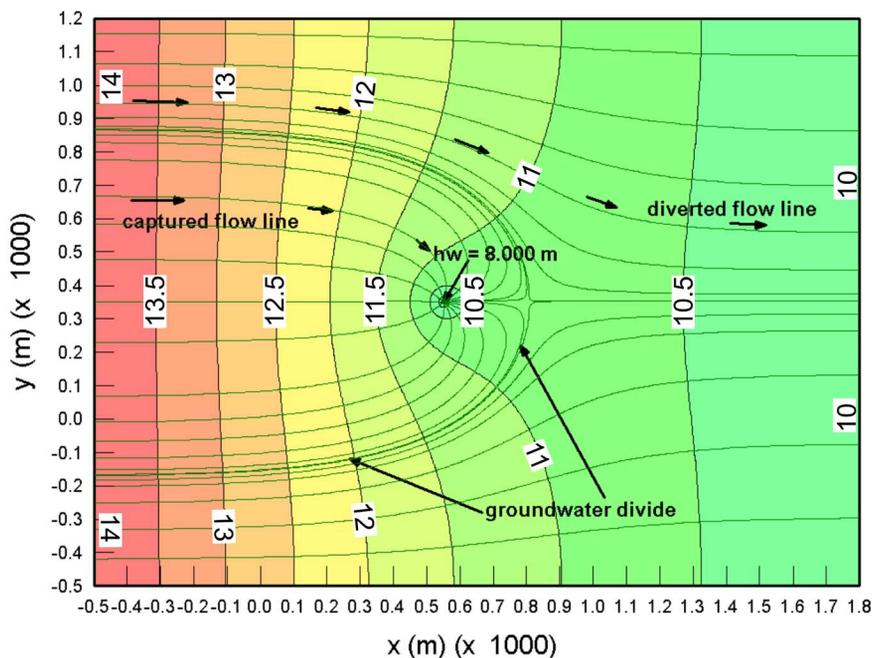

Figure 1. Example flownet for the ideal confined aquifer, steady-state pumping (equipotentials in metres).
We study the steady-state pumping problem in a rectangular ideal confined aquifer (Figure 1). The aquifer abscissa x varies from -500 m to +1800 m. The aquifer ordinate y varies from -500 m to +1200 m. The aquifer transmissivity ($T = Kb = 4 \times 10^{-4} \text{ m}^2/\text{s}$) and thickness b are constant. The pumping well is located at $x = 550 \text{ m}$, $y = 350 \text{ m}$. The boundary conditions (BC) for all grids are as follows: impervious boundary (or flow line) along the lateral boundaries $y = -500 \text{ m}$ and $y = +1200 \text{ m}$; constant hydraulic head $h = 14.00 \text{ m}$ along the upgradient boundary $x = -500 \text{ m}$; constant hydraulic head $h = 10.00 \text{ m}$
along the downgradient boundary $x = +1800$ m. Thus, before pumping the regional gradient is constant at 1.7391×10^{-3} (4 m / 2300 m) in the ideal aquifer. A flownet with the pumping well is shown in Figure 1 for one of the seven grids that have been considered for this paper. At the pumping well, the boundary condition (BC) is either a constant head h_w of 8.00 m (corresponding to a drawdown of 4.174 m) or a constant flow rate Q_w of $87 \text{ m}^3/\text{d}$. These two BC conditions are our “observations” at the pumping well. Using several grids we have found what is the computed flowrate when $h_w = 8$ m is used as the BC condition, and what is the h_w value